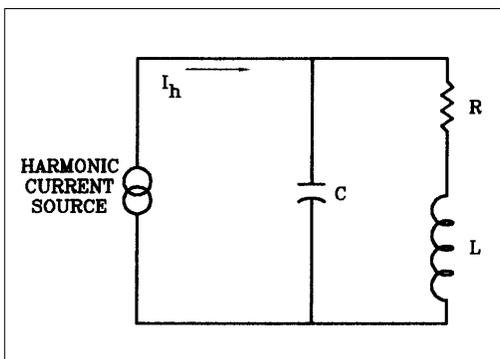
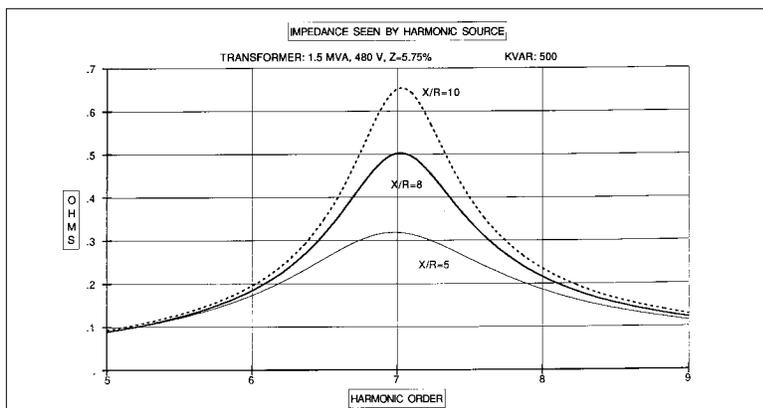

Figure 3
Figure 4
impedance, which is primarily inductive. As far as the harmonic source is concerned, it sees a capacitor in parallel with an inductor. **Figure 3** shows the model circuit for this system on a per phase basis. Resistor 'R' represents the inevitable system losses. The harmonic source is represented as a constant current source, since it behaves as such.
Figure 4 is the impedance plot, as seen by the harmonic source in figure 3, for a typical system consisting of 500 KVAR connected to a 1500 KVA, 480 volt transformer. (While impedance magnitudes are dependent on system resistance, resonant frequency is primarily a function of inductance (L) and capacitance (C).)